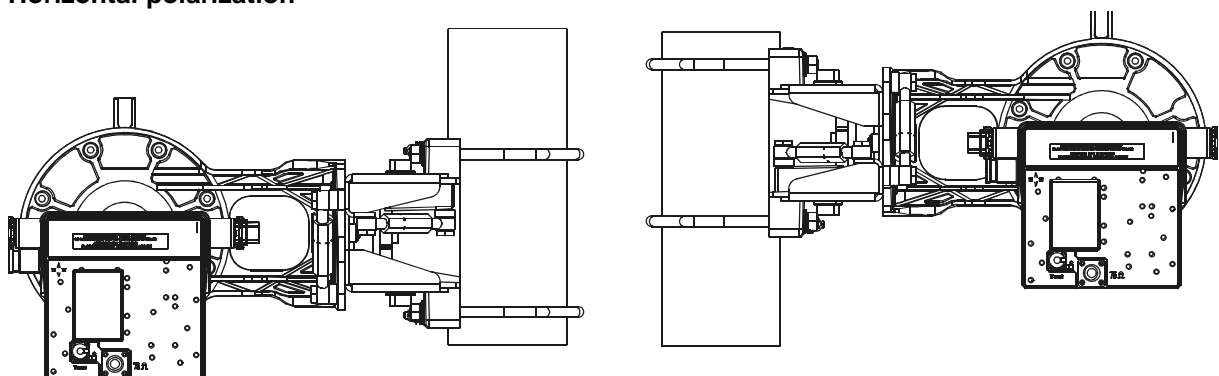

Figure 66 – Installing the RT unit
- To avoid obstacles (wall too close, etc.), you can fix the pole mounting on any side of the pipe (**see Figure 66 – Installing the RT unit**).